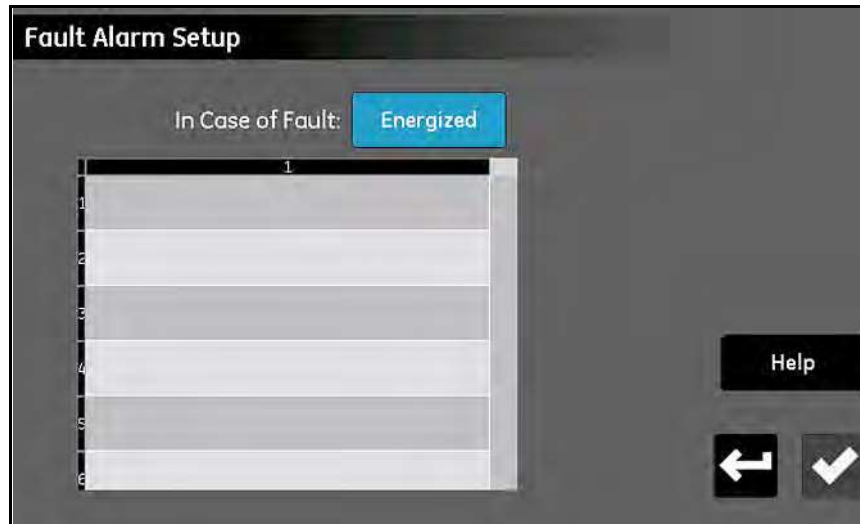

Figure 35: The Fault Alarm Setup Screen
The *Fault Alarm Setup* menu (see *Figure 35* below) allows you to specify how the moisture.IQ dedicated fault alarm relay responds to a fault condition and it lists the source of any current fault conditions.
- Tap the **In Case of Fault** button to toggle between the **Energized** and **DeEnergized** options. This selection determines whether the relay is **Energized** or **DeEnergized** (fail-safe operation) when a fault condition is detected. The source of a fault is displayed in the fault list in *Figure 35* above.